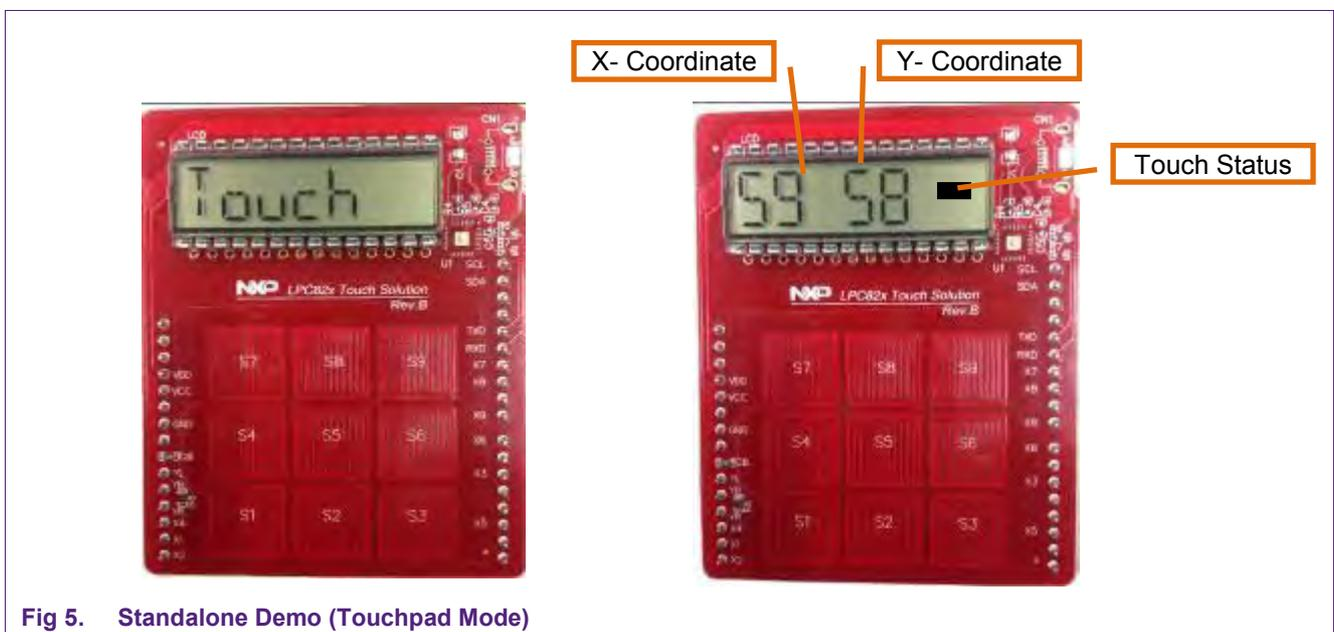

Fig 5. Standalone Demo (Touchpad Mode)
- And “Touch” display would remain until the touchpad is touched, as shown in Fig 5.